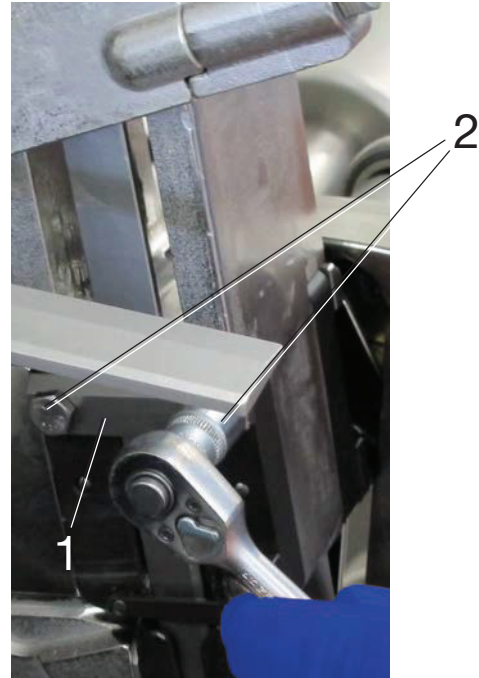

Fig. 7-14 1 Bridge
- Fold the bridge (1, Fig. 7-14) up and tighten the front fixing screw (2, Fig. 7-14) first and then tighten the rear one.